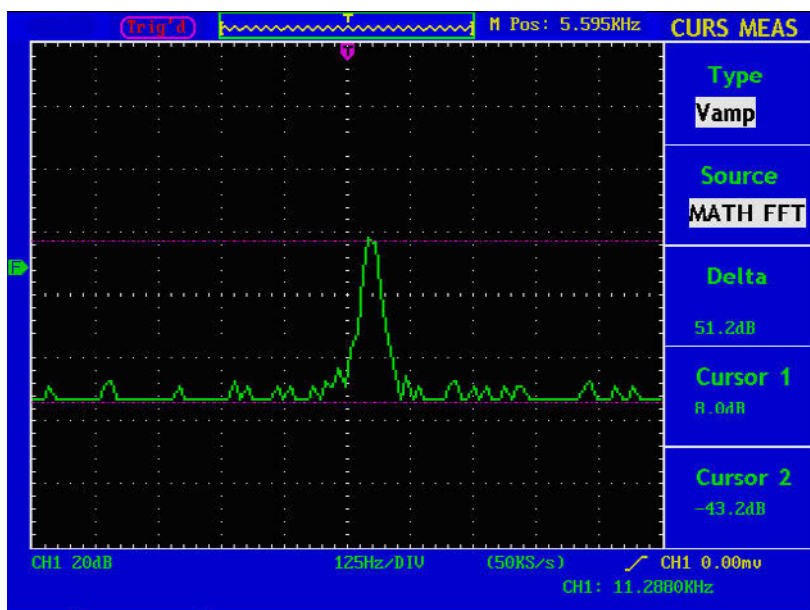

Figure 69. Wave of Vamp cursor measurement.
- 3 Adjust the positions of CURSOR1 and CURSOR2 according to the measured waveform, with the absolute value of the Vamp amplitude difference between Cursor 1 and Cursor 2 displayed in the increment window. The current position of Cursor1 is displayed in the Cursor1 window and that of Cursor2 is displayed in the Cursor2 window (see **Fig. 69**).